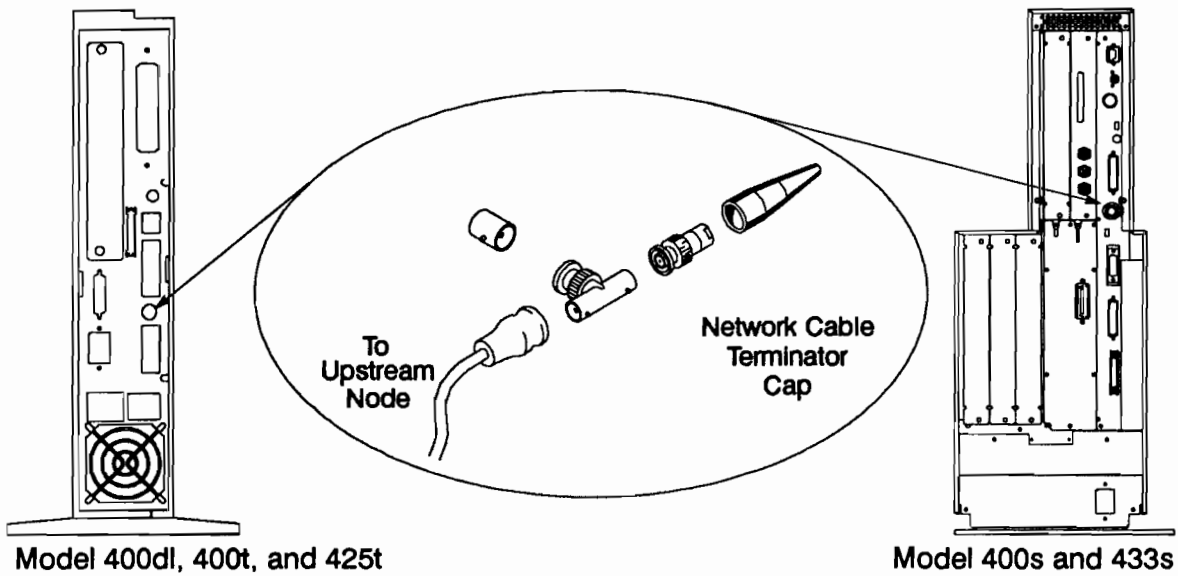

Figure 7-11. Connecting a Node at the End of an 802.3 Network Segment
3. Connect the network cable to the network side of the T-connector. If the system is at the end of the network segment, use a network cable terminator cap on the terminal end of the T-connector as shown in Figure 7-11.